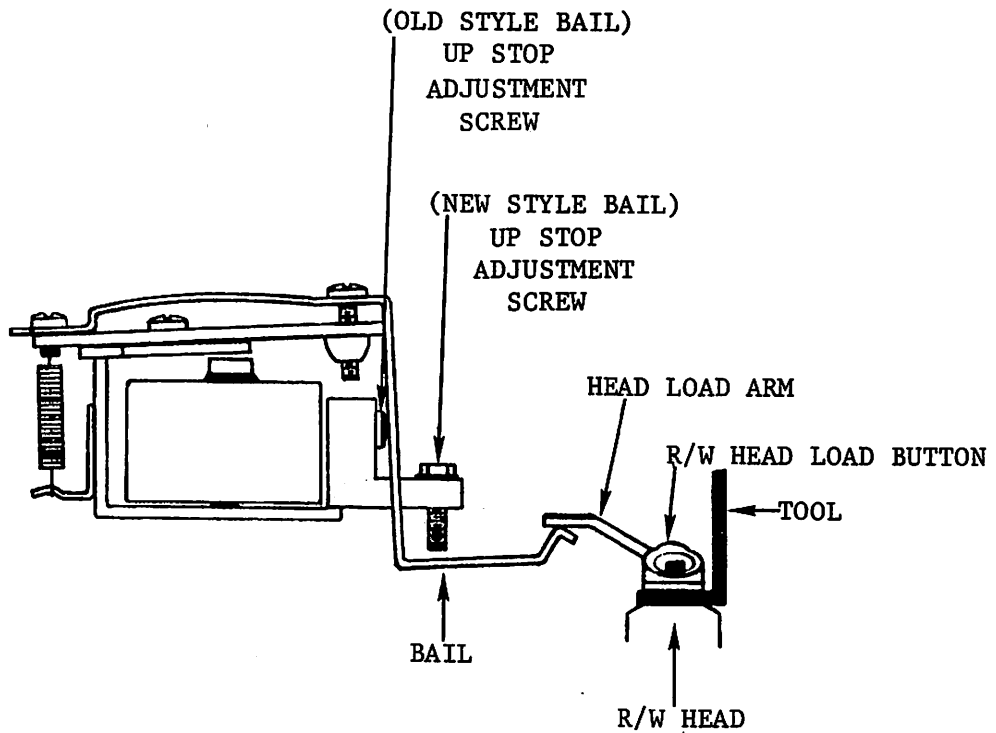

FIGURE 5
- c. Adjust up stop on actuator so that bail just touches head load arm (Ref. Figure 5).